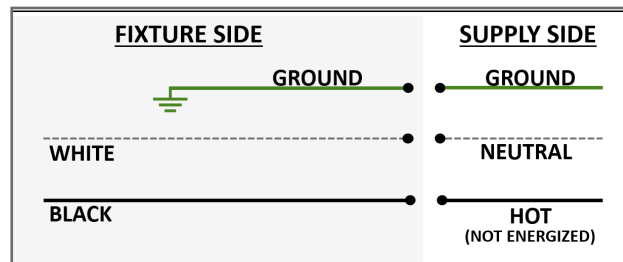

FIGURE 8
5. Route the input wires through the chosen knockout and make electrical connections according to Figure 8.